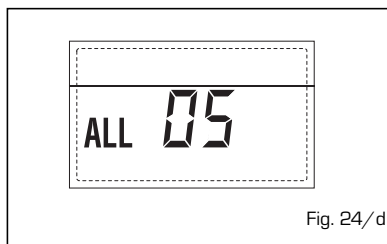

Fig. 24/d
**- FLAME BLOCK ALARM 06** (fig. 24/e)